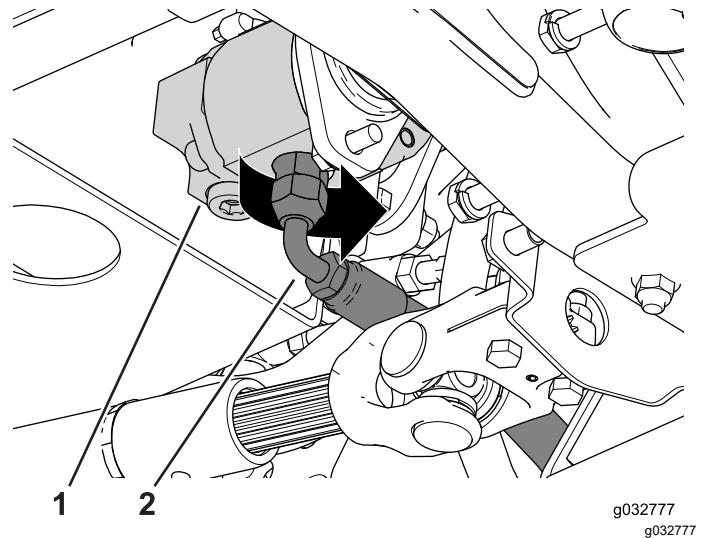

Figure 122
3. Align the bolt holes to loosely install the bolts and spacers on the right side of the machine (Figure 122).
2. Loosen the supply-hose fitting that is connected to the gear pump and rotate the supply hose toward the right side of the machine (Figure 122).